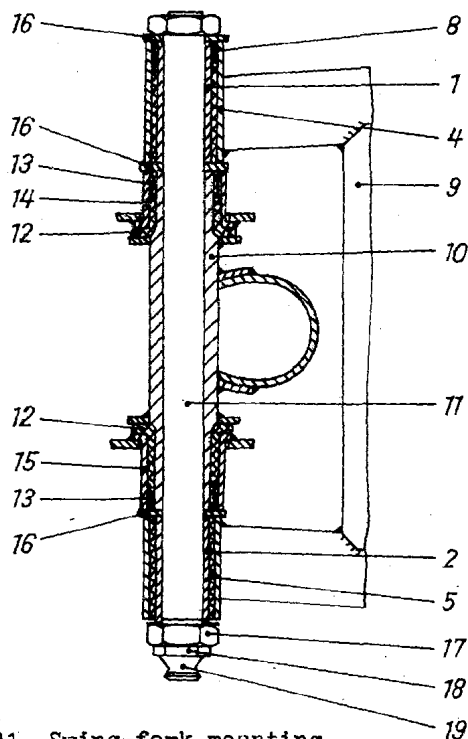

Fig. 91. Swing-fork mounting
- Cutting up and pressing out the rubber bushes (4) and (5);
- Pressing in the new rubber bushes (4) (in a dry state) with a mandrel from the outside of the swing-fork, insert the intermediate ring (7). For the left-hand swing boss use the short and for the right-hand swing boss use the longer cylindrical lug of the mandrel (6).
- Insert from outside the supporting ring (8) - 10 mm wide - into the right-hand swing boss;
- Put the inner tube (1), 54 mm long, and then (2), 44 mm long, on the cylindrical end of the mandrel (3) and, with the taper end ahead, press the mandrel into the rubber bushes wetted with soap water until the inner tube projects uniformly from the two sides of the swing tube.
Remove the adjusting ring (18) and left-hand hexagon nut (17), drive out the swing bearing bolt to the right by means of an auxiliary mandrel and leave the auxiliary mandrel plugged in place for centring the swing-fork (see Figs. 91 and 93).
5.1.5. Rear Engine Suspension (Fig. 91)